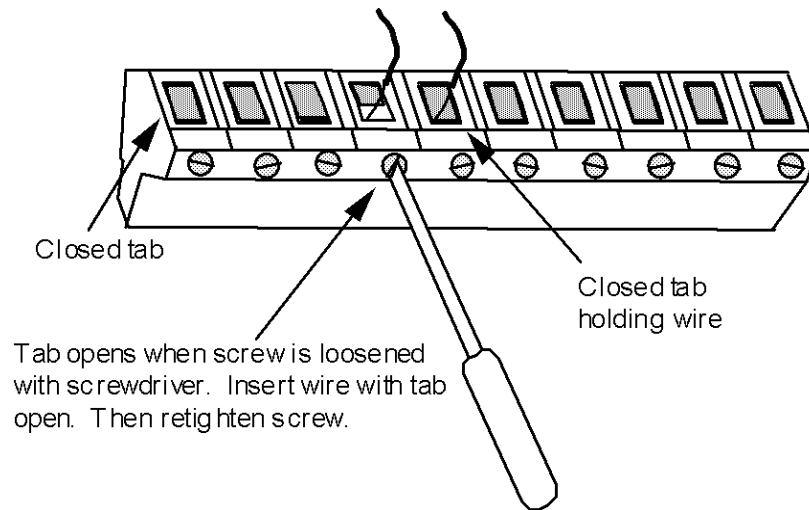

Figure 2-2. Attaching a Wire to a Connector
8. To connect a wire, loosen the screws to your feed's terminal, as shown in Figure 2-2. (Also refer to the wiring diagrams.) Insert the bare part of the wire 90% of the way into the open slot. Retighten the screw, holding the wire firmly in place.